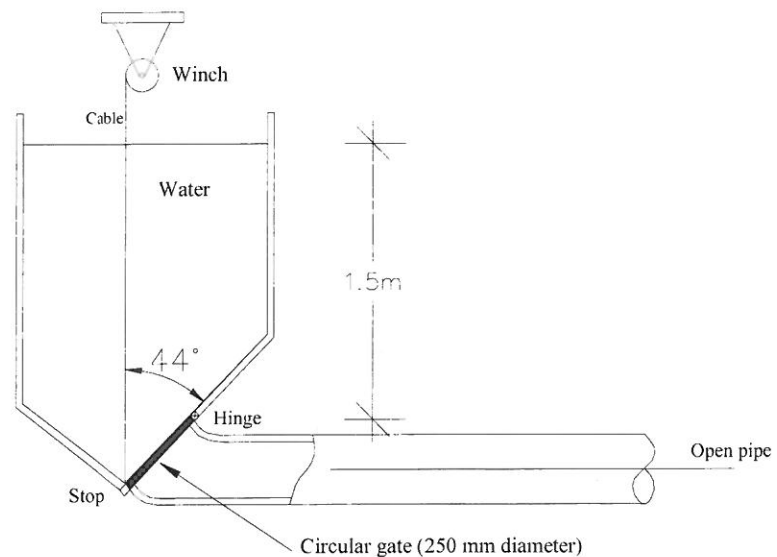

Fig. 6.7
- 6.2 **Fig. 6.7** below shows a tank of water with a pipe connected to its bottom. A circular gate seals the pipe opening to prohibit flow. To drain the tank, a winch is used to pull the gate open. The diameter of the circular gate is 250 mm. Assuming that the thickness and weight of the gate is negligible, determine the amount of force that the winch cable must exert to open the gate. (8)